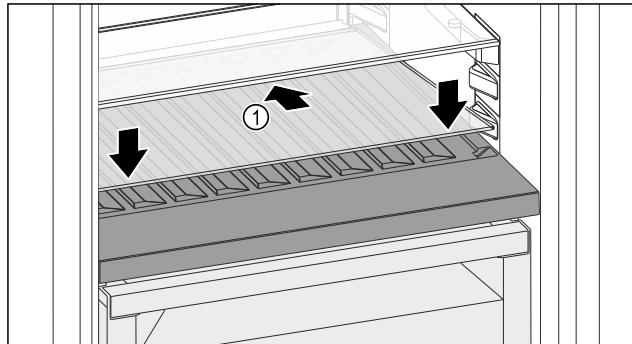

Fig. 100
- Place the glass shelf Fig. 100 (1) at an angle, sloping it downwards and backwards.
- Lower the glass shelf Fig. 100 (1) at the front.